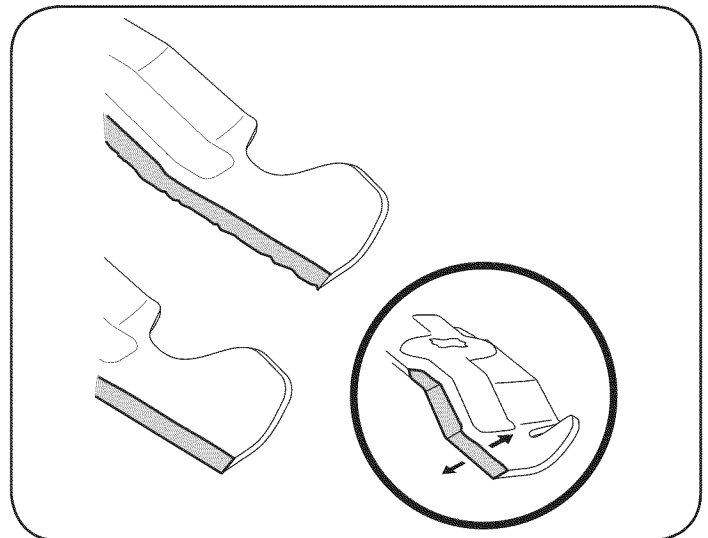

Figure 31
- To properly sharpen the cutting blades, remove equal amounts of metal from both ends of the blades along the cutting edges, parallel to the trailing edge, at a 25°- to 30° angle. Always grind each cutting blade edge equally to maintain proper blade balance. See Figure 31.